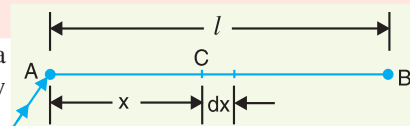

Fig. 13.13
**Solution.** Fig. 13.13 shows the single line diagram of a 2-wire d.c. distributor  $AB$  fed at end  $A$  and loaded uniformly with  $i$  amperes per metre length.